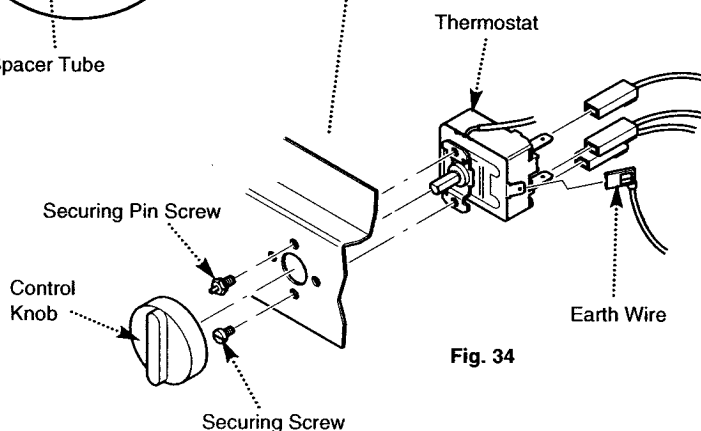

Fig. 34
3. Remove the screws securing the thermostat to the control panel and pull off the earth wire (Fig. 34).
6. Reassemble in reverse order. The securing screw incorporating the pin must be used on the right (Fig. 34). Ensure both phials and the spacer tube are pushed fully into the thermostat pocket and the capillaries are retained by the clip.